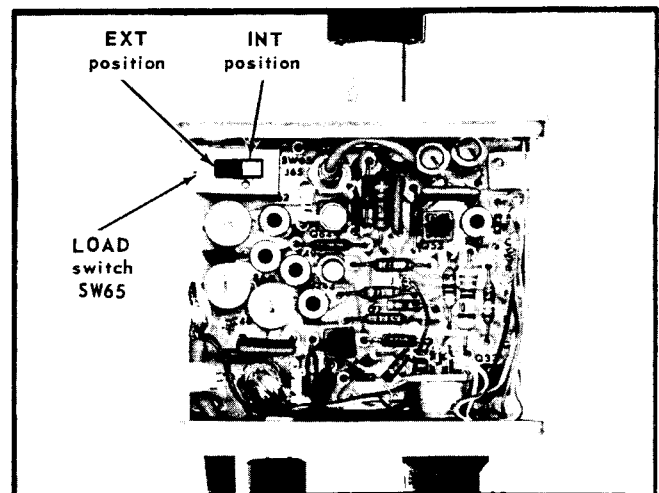

Fig. 5-13. Location of LOAD switch in the probe amplifier box. Set the switch to the EXT position for operation with the 50-ohm sampling system.
(2). Set the P6045 LOAD switch to the EXT position (see Fig. 5-13).